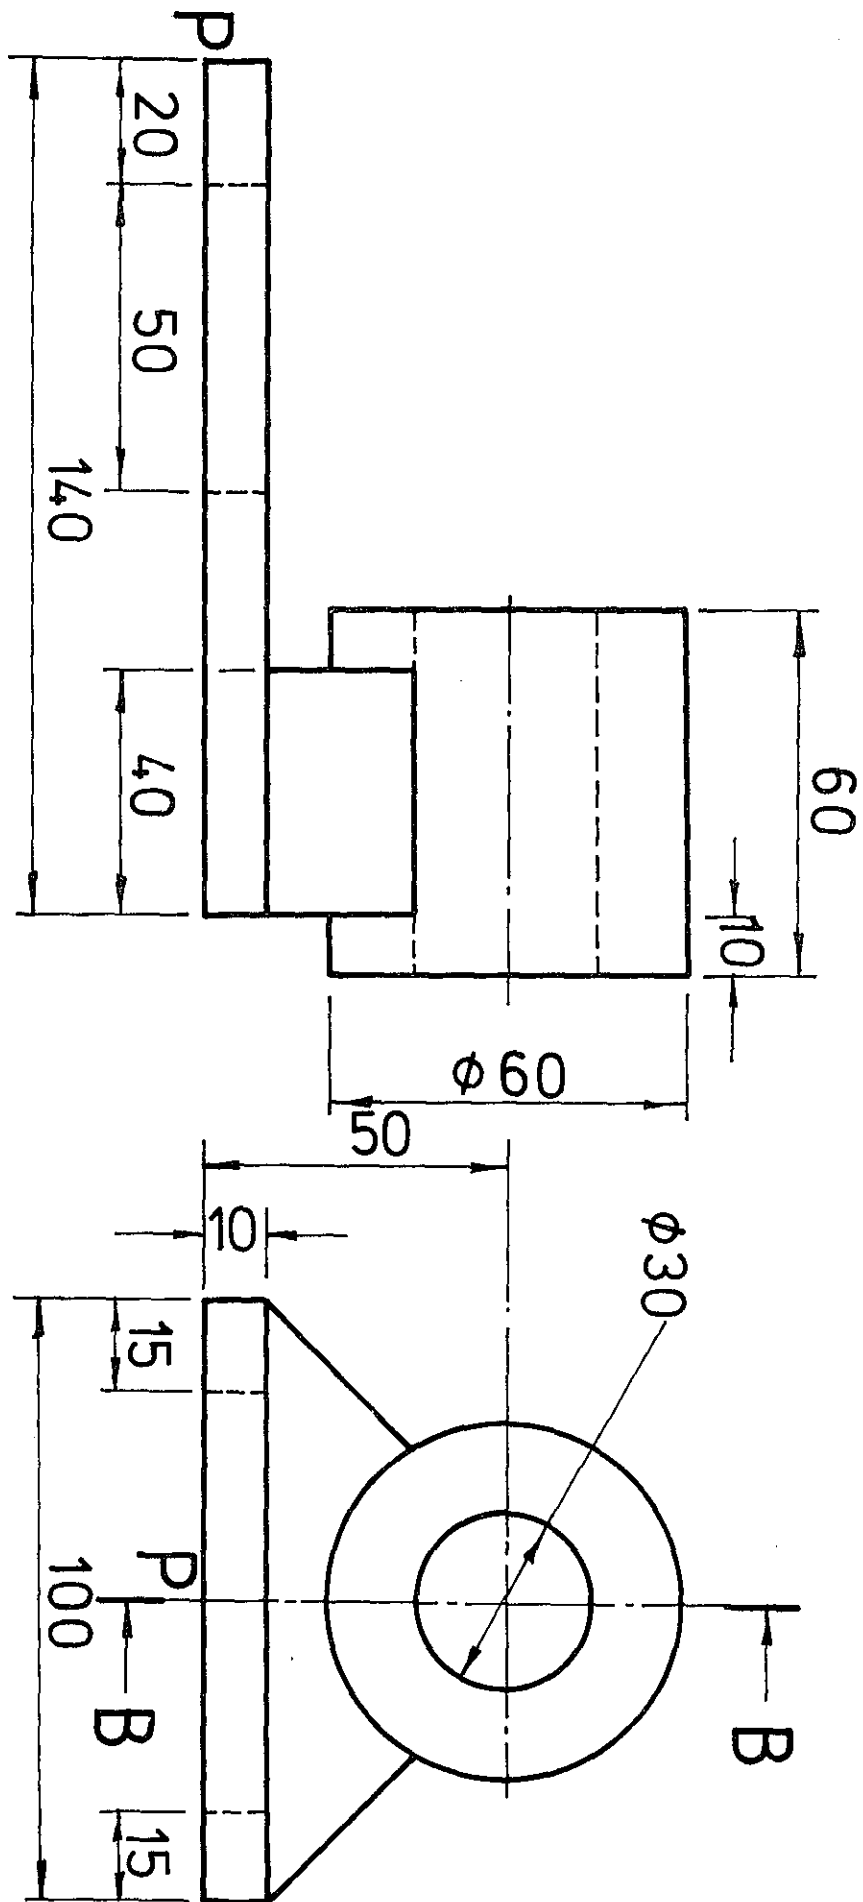

FIG. 6 FÍOR 6
- (a) Fig. 6 shows two elevations of a bearing bracket. Draw an isometric view of the bracket viewed on the section plane BB with the front section of the casting removed. P is to be the lowest point of the drawing.